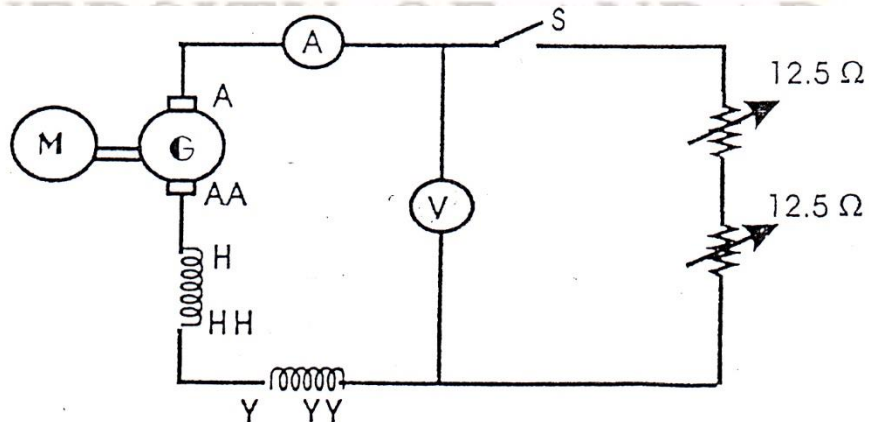

Fig. 2
2. Connect the generator for self - excitation series generator. (Fig2). Vary the load (the load is two rheostat resistance 12.5 -10 A connected is series) from zero load current to 125% full load current in 6 steps and record the values of V_L and I_L .